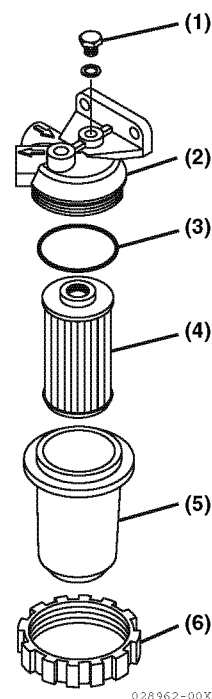

Figure 4-24
3. Remove the filter case by loosening the retaining ring (**Figure 4-24, (6)**). Turn the ring counterclockwise using a filter wrench.
4. Remove the filter cap (**Figure 4-24, (5)**) and remove the filter element (**Figure 4-24, (4)**). Replace the element with a new one.
6. Clean the inside of the housing thoroughly, install the O-ring (**Figure 4-24, (3)**) and hand tighten the retainer ring until the new filter element comes into contact with the mounting surface.